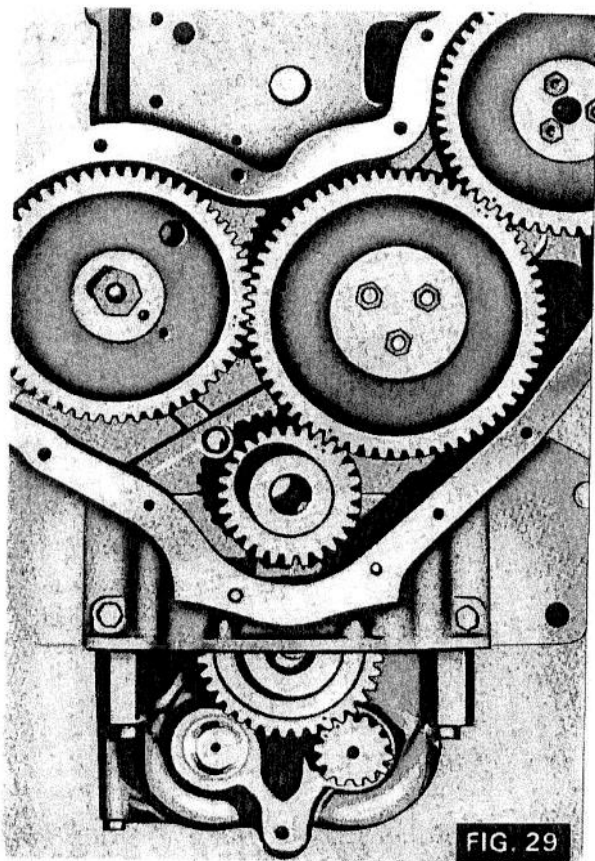

FIG. 29
2. Refit the idler gear to its hub, ensuring the timing marks on the camshaft, crankshaft fuel pump and idler gears are correctly aligned as shown in Fig. 29.
3. Refit the idler gear to its hub ensuring that the timing marks on the crankshaft gear, fuel pump gear, camshaft gear and idler gear are correctly aligned as shown in Fig. 29.
1. Remove the timing case cover as described previously. Turn the crankshaft until all the timing marks are correctly aligned. (Refer to Fig. 29.).